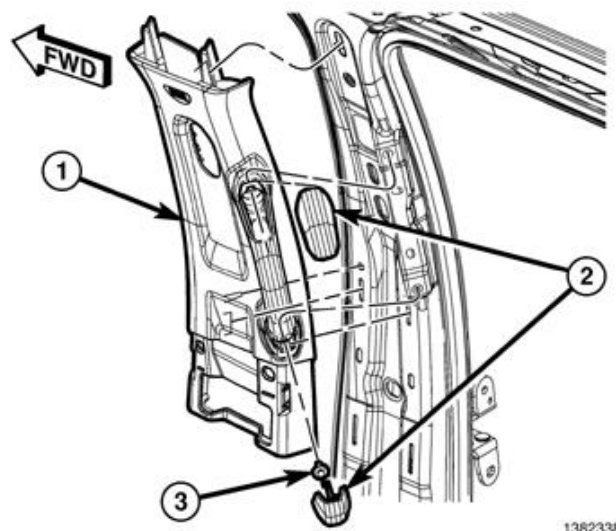

Figure 71 – B-Pillar Upper Trim Panel
8. On the B-pillar, use a small flat-bladed tool to carefully open the two fastener covers (2) located on the grab handle (Figure 71).
9. Remove the two bolts (3) that secure the grab handle to the B-pillar (Figure 71).
10. Using a trim stick C-4755 or equivalent, release the retaining clips that secure the B-pillar upper trim panel (1) then position the trim panel out of the way. It is not necessary to remove the seat belt from the trim panel (Figure 71).